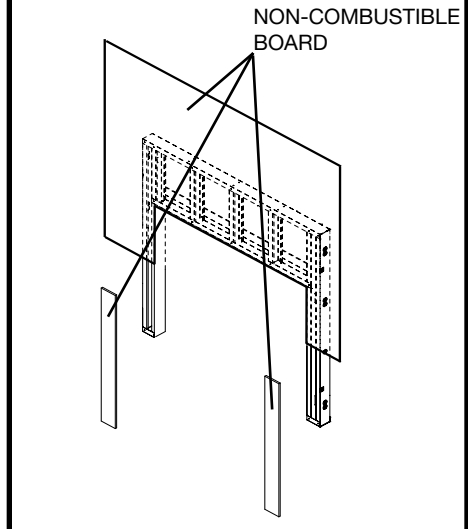

Figure 12: Non-combustible board location.
**CAUTION: See "Figure 12" on page 9 BEFORE PROCEEDING.**